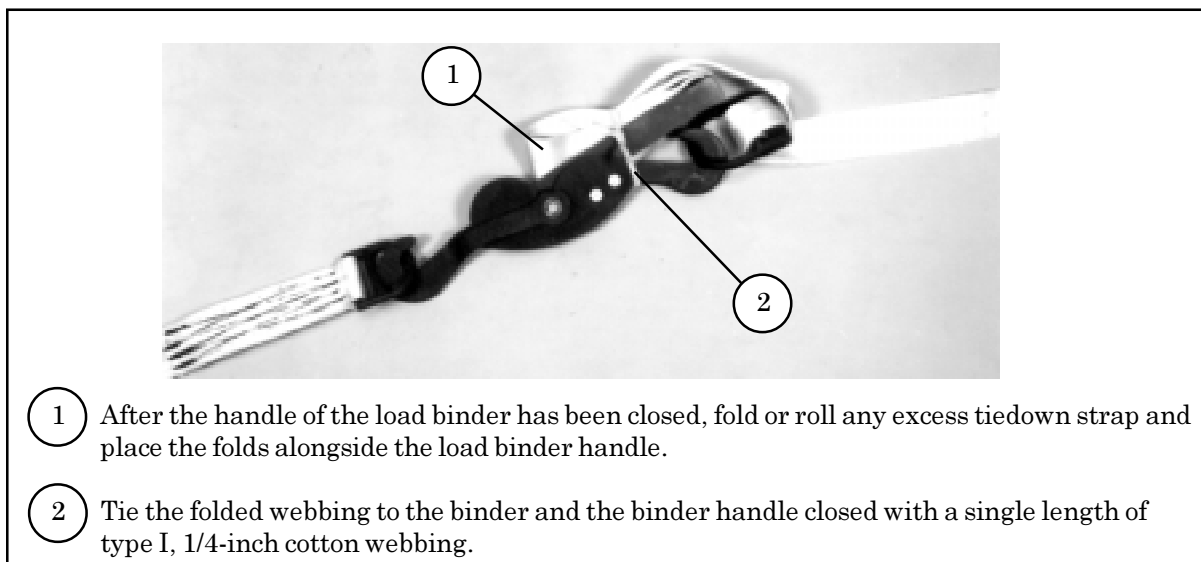

Figure 3-9. Load Binder Handle and Excess Webbing Safety Tied
- 5 Fit a D-ring on the free end of each strap as described in Figure 3-6, and place the D-rings on the hooks of a load binder. Safety the binder handle closed as shown in Figure 3-9.
3-12. Fold the excess tiedown strap, and place the folds alongside the load binder handle. Safety tie the load binder handle closed as shown in Figure 3-9.